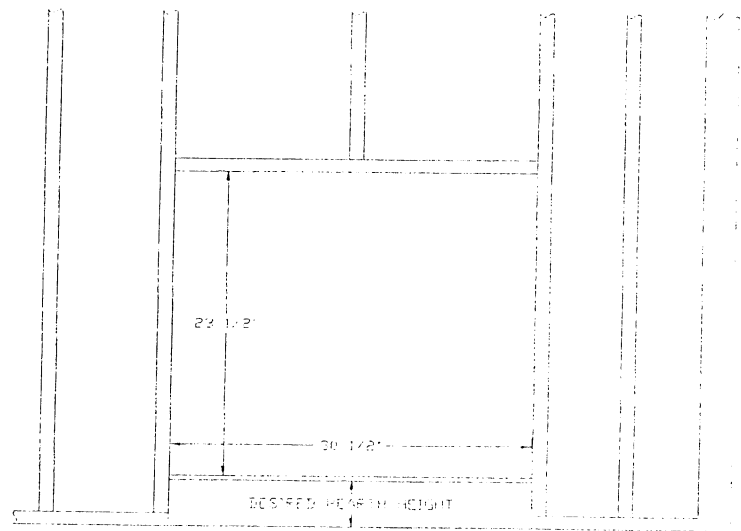

Figure 3B
5. Rough in the wall enclosure. The rough opening dimensions are 30 1/2" (775 mm) wide, 23 1/2" (597 mm) high and 17 1/4" deep (438 mm). Build the hearth to the desired size, and height. See figure 3B.